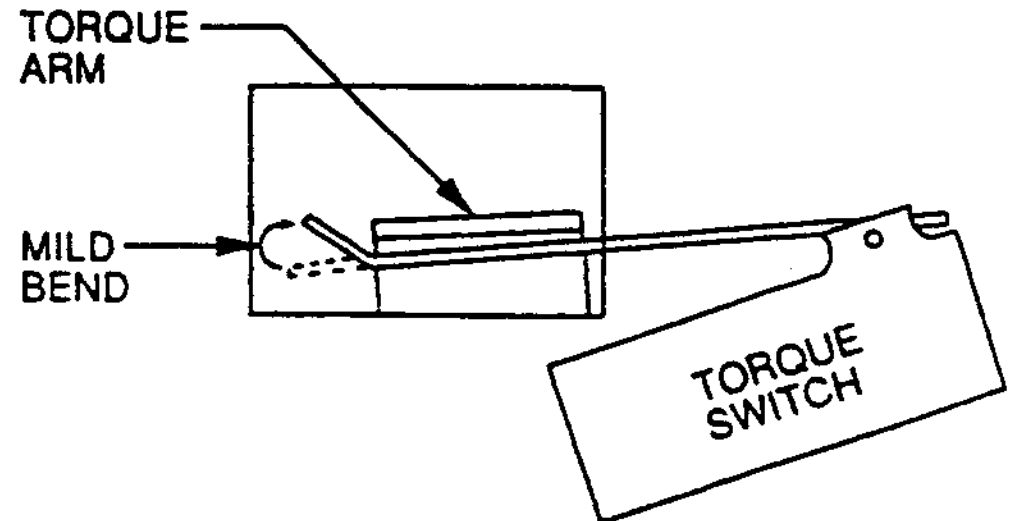

Fig. 3
- c. Form a mild bend (Fig. 3) upwards over the torque arm.